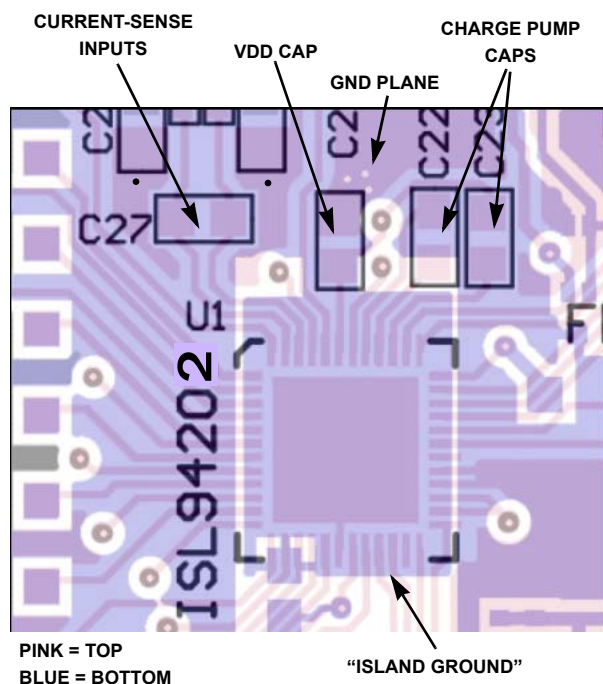

Figure 18.32 Example 4-Layer PCB Layout for VDD Bypass, Charge Pump, and Current Sense
- An example PCB layout is shown in Figure 18.32. This figure shows placement of the VDD bypass capacitor close to the VDD pin and with a good ground connection. The charge pump capacitors are also close to the IC. The current-sense lines are shielded by ground plane as much as possible. The ground plane under the IC is shown as an “island”. The intent of this layout was to minimize voltages induced by EMI on the ground plane in the vicinity of the IC. This example assumes a 4-layer board with most signals on the inner layers.